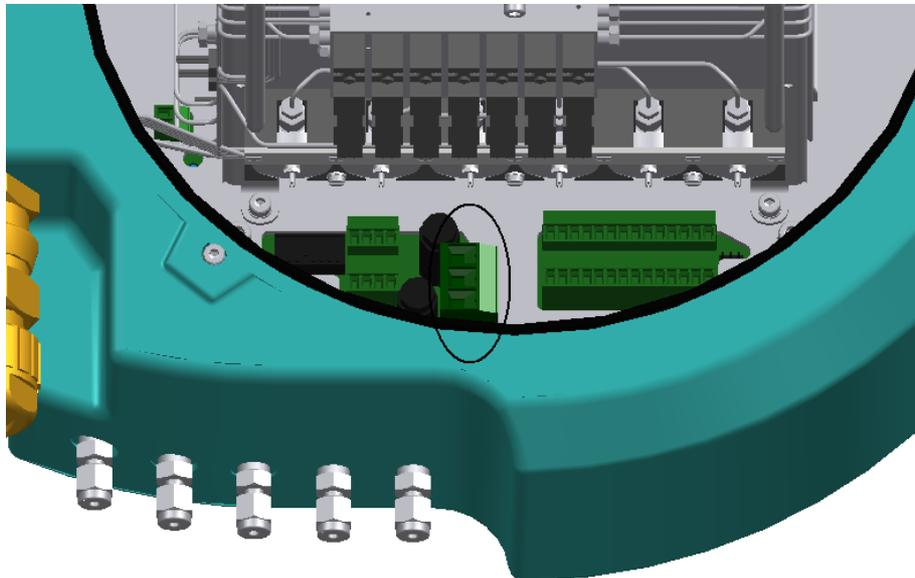

fig. 5-6 Location of Power Supply connector (J8)
Power Supply is 24 VDC (tolerance band 18 – 36 VDC), with conductor size AWG 12-13 (2.5 – 4 mm²). The cable has to be connected to connector J8. See picture below and fig. 5-6 for location and polarity. Just a two wire connection for + and – is required, don't connect a third wire for the ground. Instead of that the device should be grounded at the bottom of one housing at a M5 connection or at a free M8 connection at the mounting plate.
- For the location of the internal connector see figure 5.6.